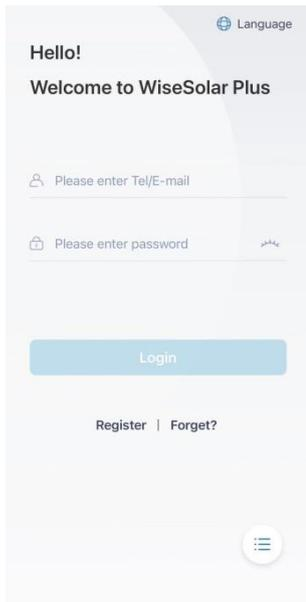

Figure4-3 Login page
Step 4 After registering, login according to the registered **Tel/E-mail** and **password**, as shown in Figure4-3.